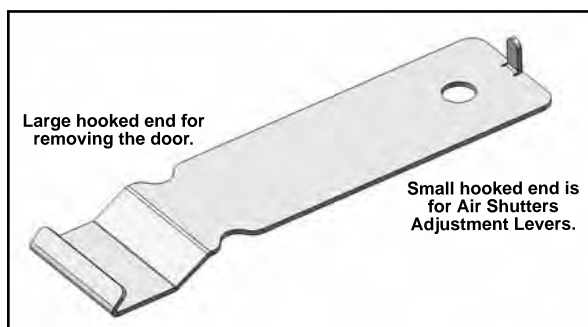
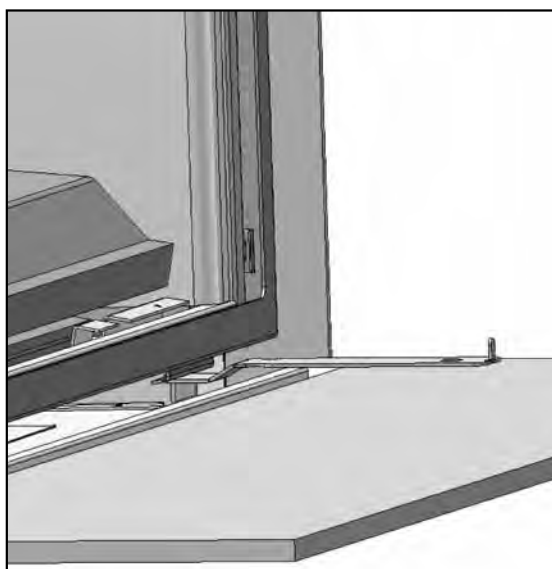

Figure 45: Door Latch /Air Adjustment Tool.
Figure 47: Door Latch Tool in Place.
- 1) The fireplace door is hung on two (2) hooks on the top of the firebox. The two (2) door latches at the bottom of the firebox hook over the tabs on the bottom of the door frame.
- 2) Lower the door latch tool underneath the door frame. Catch the lower door latch with the door latch tool (see Figure 45) and pull it out slightly, then down. Once the lower door latch clears the tab on the bottom of the door frame, release it inwards and then remove the door latch tool. Refer to Figures 47 & 48.